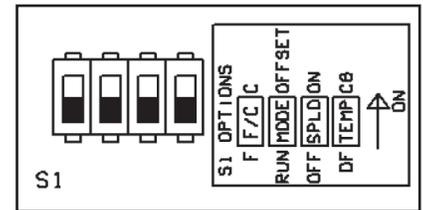

Fig. 10: Configuration Switches S1
\*\* S1-4, Position (CG) connects [Temp-] terminal to the [GND] terminal internally. The (DF) position makes the [TEMP -] terminal floating. (See Fig.10)
The four DIP switches on the bottom of the board called S1 configure four different parameters (see Fig: 10).